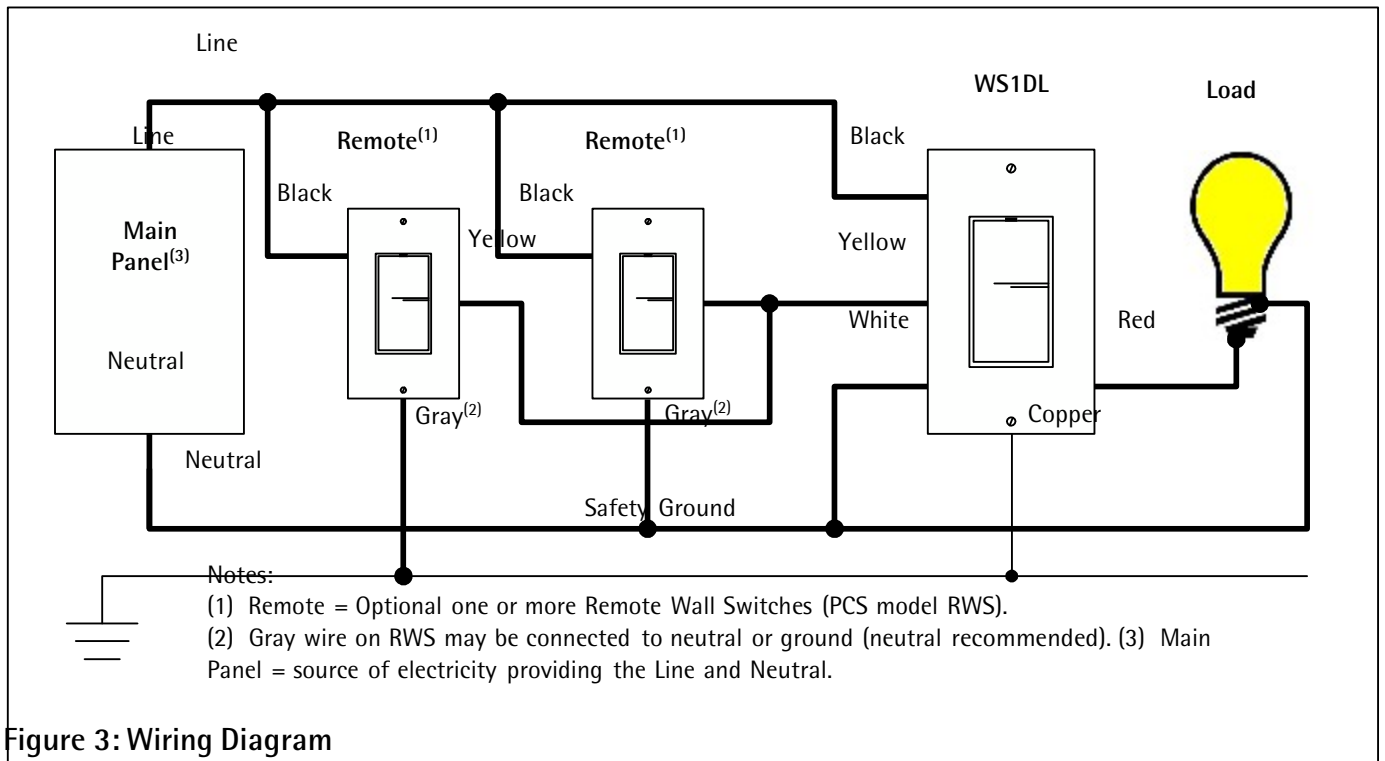

Figure 3: Wiring Diagram
4. Install the WS1DL Wall Switch connecting wires per wiring configuration shown in Figure 3.
5. Optionally install any RWS Remote Wall Switch per wiring configuration shown in Figure 3.